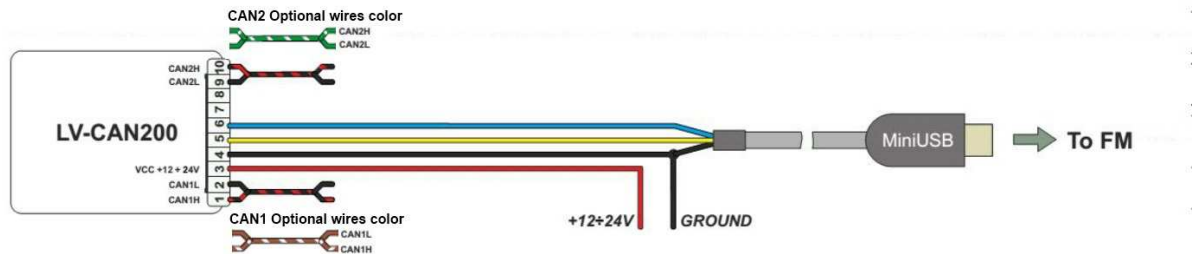

Figure 80 LV-CAN200 Adapter connection cable pinout
1. In car, connect LV-CAN200 or ALL-CAN300 to CAN bus and to the FM6300 device (Figure 80) wait 10 seconds. Note, that car engine must be started.